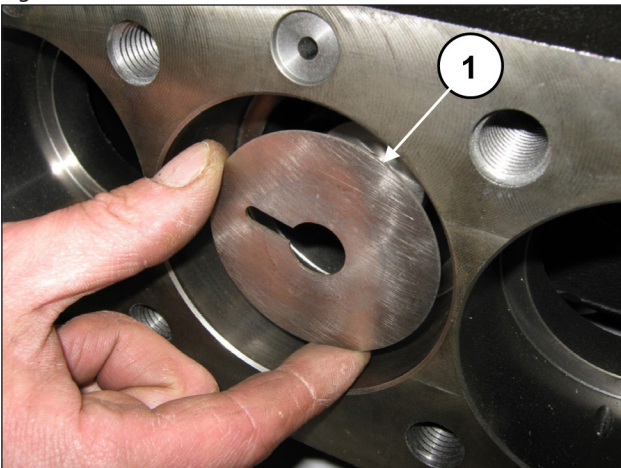

Fig. 177
Remove the spray-guard rings from the piston guides (pos. ①, Fig. 177).